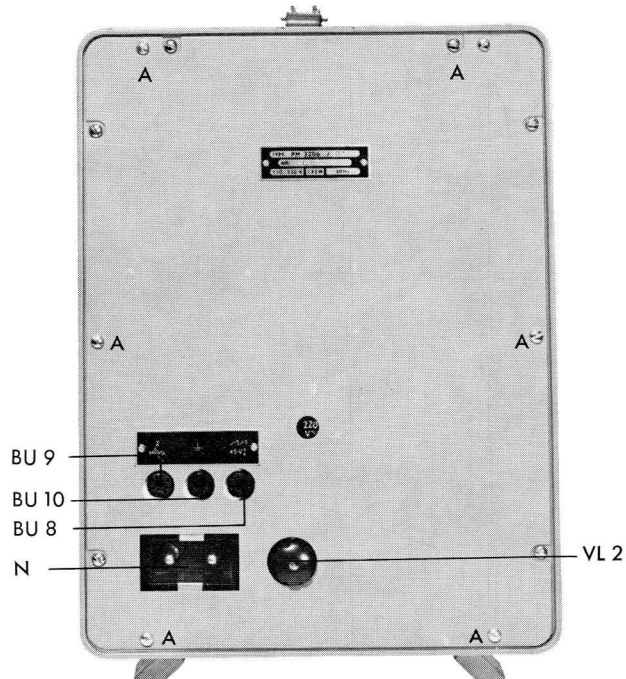

Fig. 1. Rear view
The required value can be read through the opening in the rear panel (Fig. 1).
- d. Connect the mains input socket ("N", Fig. 1) to the mains with the cable provided.
The voltage required for brightness modulation should be connected to the socket "Z-MOD." at the rear of the apparatus (see Fig. 1). This voltage should be approx. 30 V.